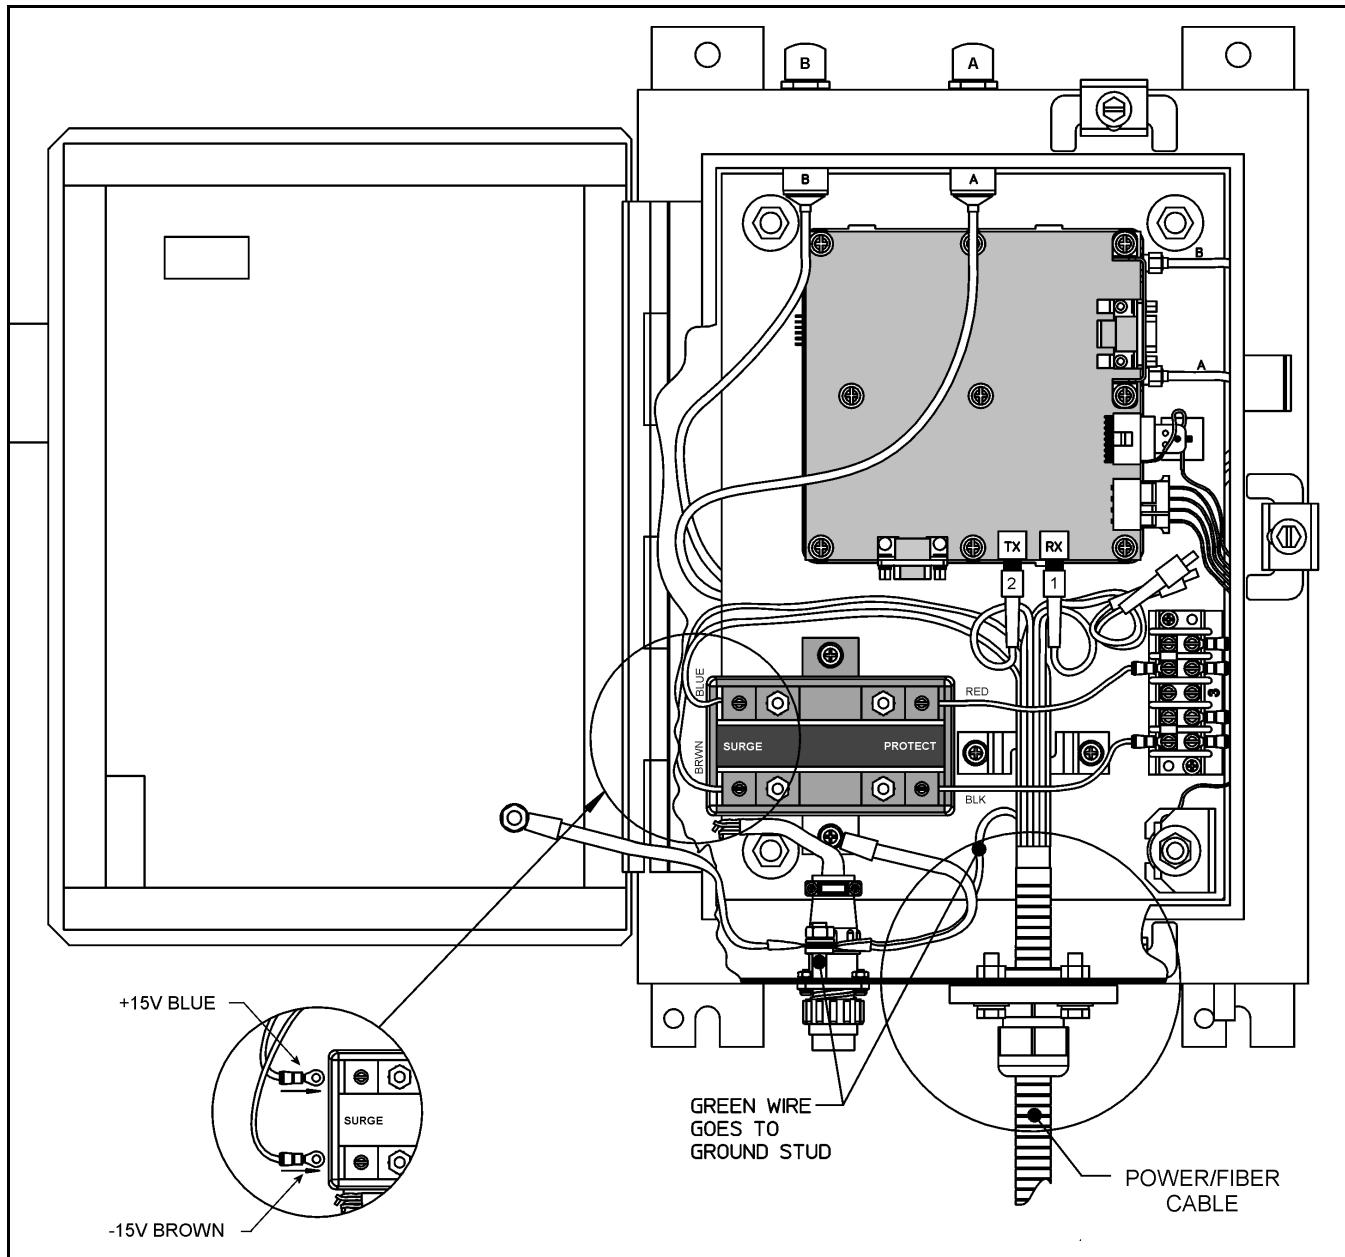

Figure 6-3: Wiring the Power/Fiber Optic Cable Assembly
2. Connect the blue and brown power wires to the surge (input) side of the surge protector as shown in Figure 6-3.